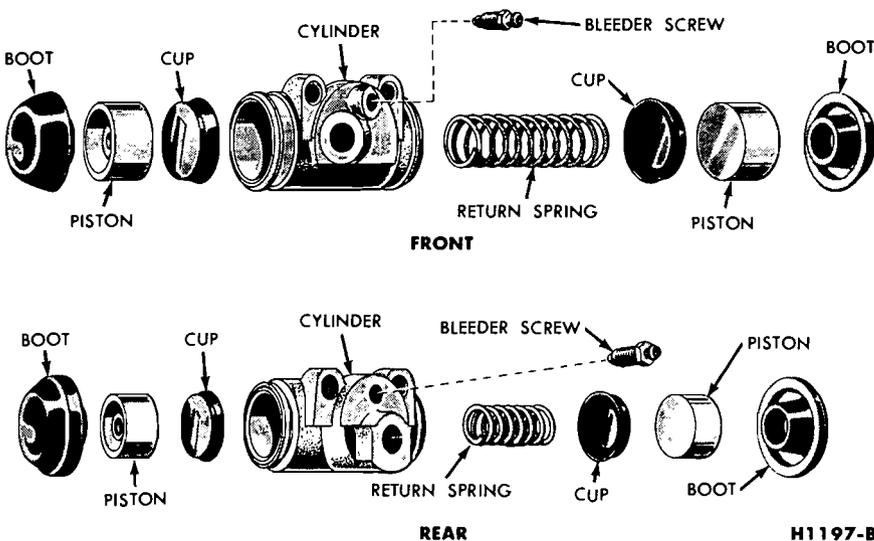

FIG. 22—Front and Rear Wheel Cylinders
On 8-cylinder models and on all Comets and Fairlanes, remove the links and rubber boots from the ends of the piston. Remove the pistons, cups, and return spring from the cylinder bore (Fig. 22).
3. Insert the return spring, cups, and pistons into their respective positions in the cylinder bore (Fig. 22). Place a boot over each end of the cylinder. On 8-cylinder model Mustangs and Falcons and all Comets and Fairlanes, install the links in the ends of the brake cylinders.